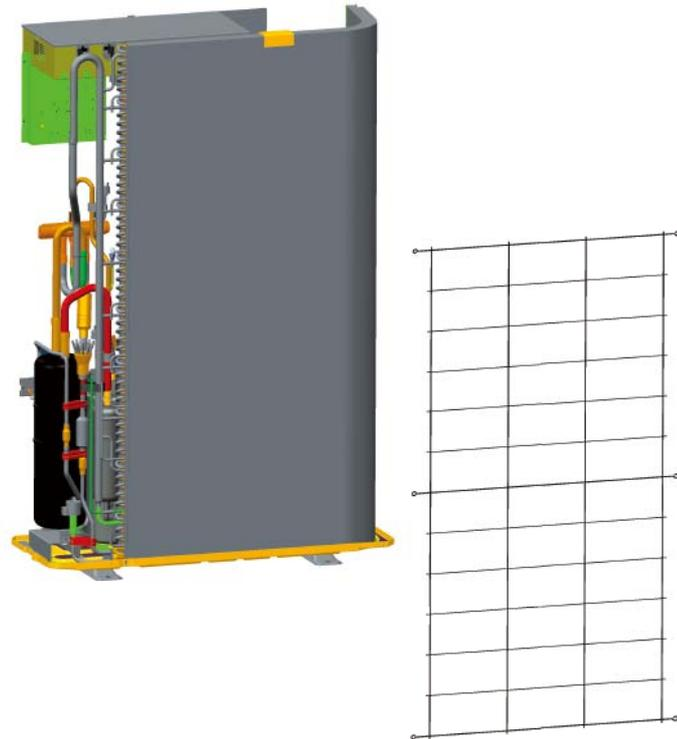

Fig.5
• Loosen the two tapping screws, and remove the Rear Grill.[See Fig.5]